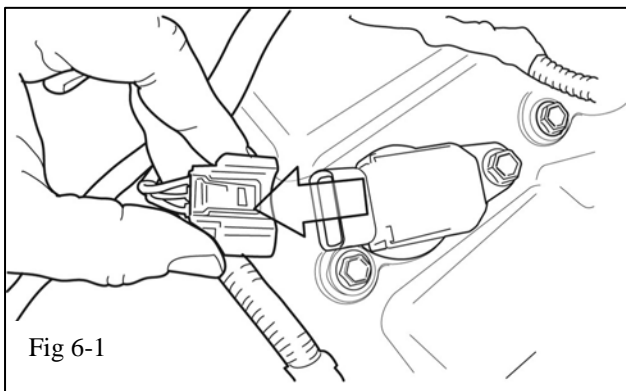

Fig 6-1
- (a) Unplug the electrical connector from each of the 6 ignition coils (Fig 6-1).